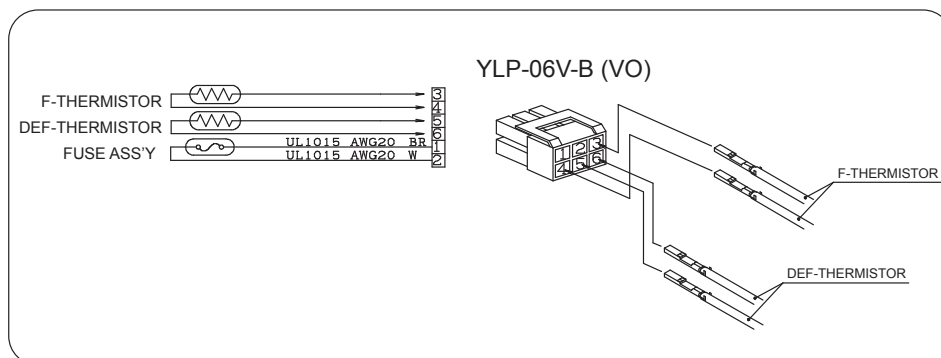

Figure A-3
- 2) Insert terminal F-Thermistor and Def-thermistor in the housing.(Figure A-3)